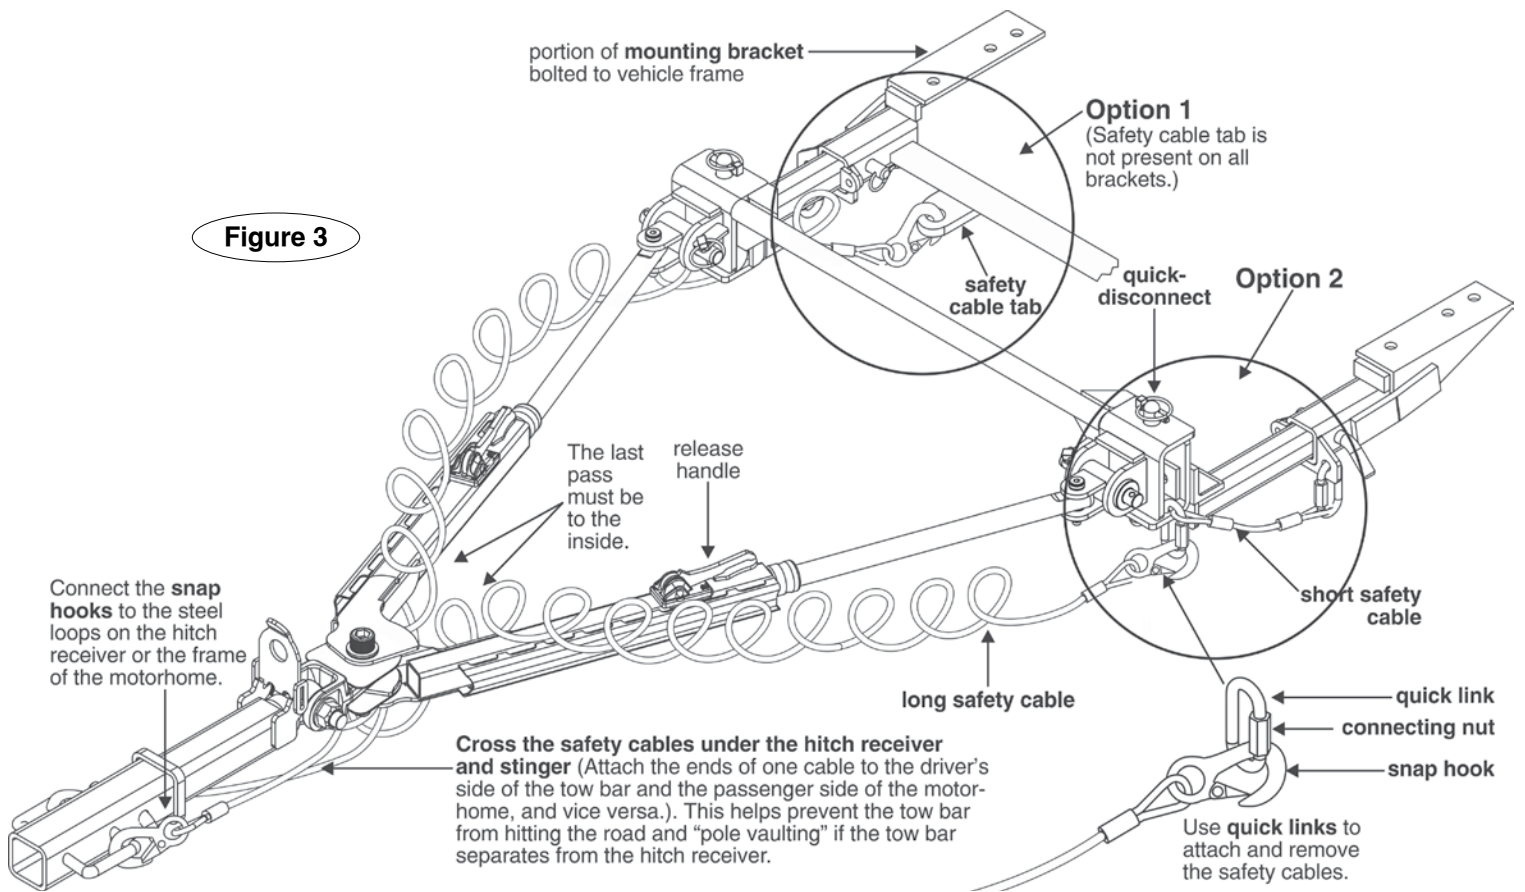

Figure 3
- Always cross the cables under the hitch receiver, as shown in Figure 3 under "Proper installation of safety cables." In the unlikely event the tow bar separates from the motorhome, crossing the cables will help prevent the tow bar from dragging on the ground, which can cause the tow bar to "pole vault" the towed vehicle.
Cross the safety cables under the hitch receiver, as shown in Figure 3.
If the tow bar **mounting bracket** is similar to the one shown in Figure 3 under "Option 1" and the safety cables are long enough, connect the **snap hooks** (or quick links) to the **safety cable anchors** built into the mounting bracket.
Some ROADMASTER tow bar mounting brackets with removable arms, such as the one in Figure 3 under "Option 2", use both a long safety cable and a short safety cable on each side.
If your towing system requires two sets of safety cables, always use both the long and the short safety cables. Connect them as shown in Figure 3 under "Option 2". Otherwise, in the event of a towing system failure, the towed vehicle will detach, which may cause property damage, personal injury or even death.